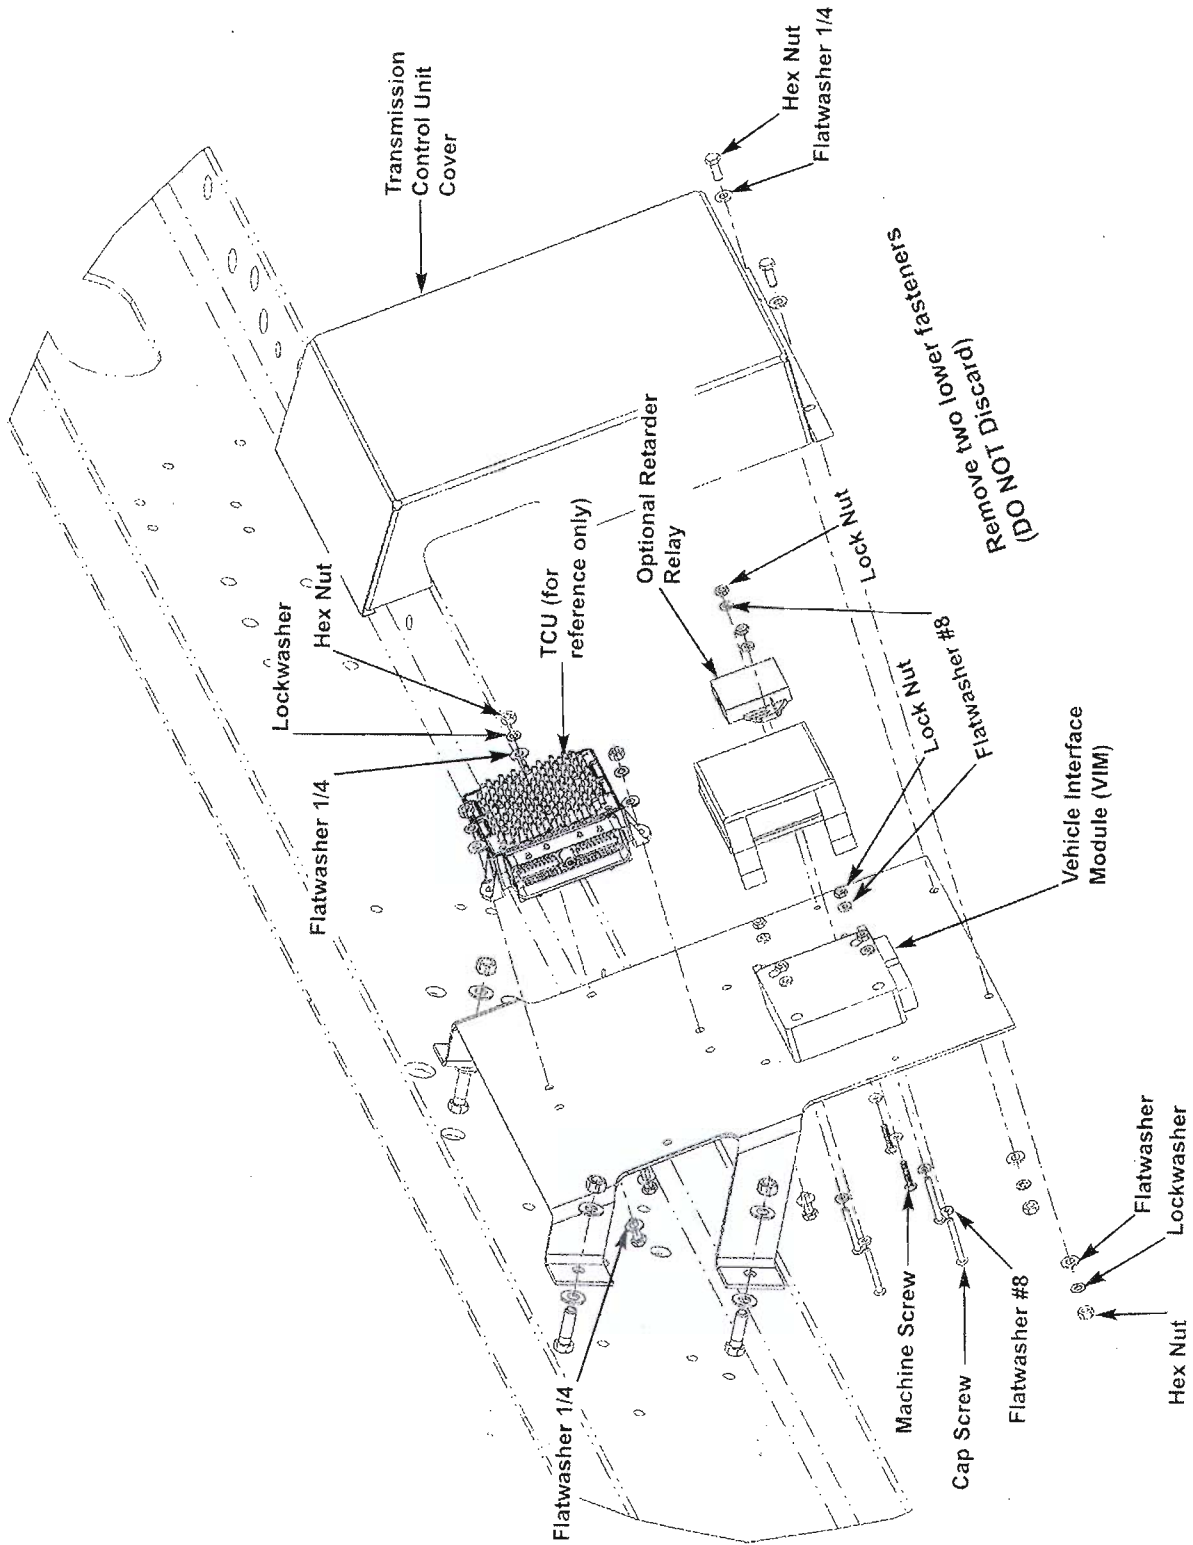

Figure 1
3. Over the Front Axle inside the Frame area, remove the TCU Cover by removing the two (2) lower 1/4 fasteners, (Hex Bolt, Flatwasher, Lockwasher, and Hex Nut). **Retain these fasteners for reuse.** Swing upward to access inside. **Figure 1**